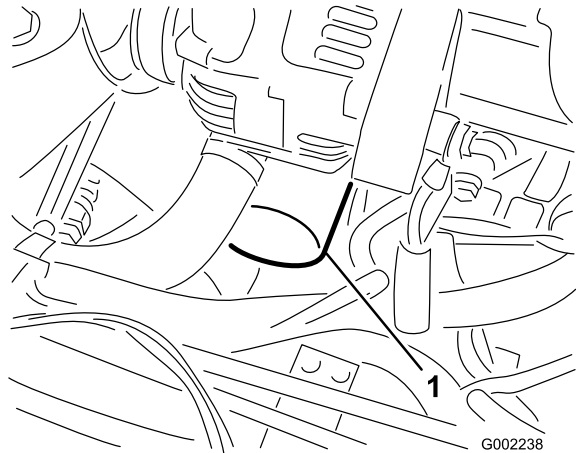

Figure 42
7. Remove the old oil filter (Figure 42).
10. Install the replacement oil filter to the filter adapter. Turn the oil filter clockwise until the rubber gasket contacts the filter adapter, then tighten the filter an additional 1/2 turn (Figure 42).